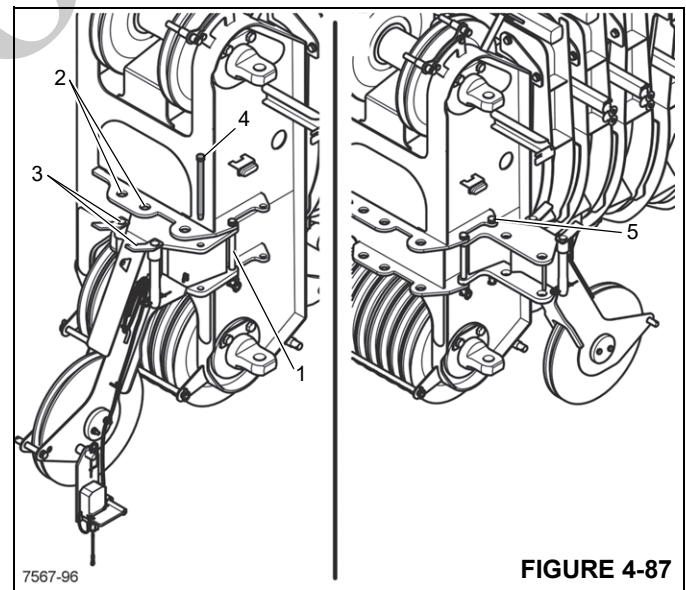

FIGURE 4-87
1. Verify the swivel pin (1) (Figure 4-87) is installed and secured with a retaining clip.
2. Remove the mounting pins from the mounting lugs (2).
3. Insert the mounting pins into the storage holes (3) and secure them with retaining clips.
4. Remove the transport pin (4).
6. Insert the transport pin in the transport lug (5) and secure it with a clip.